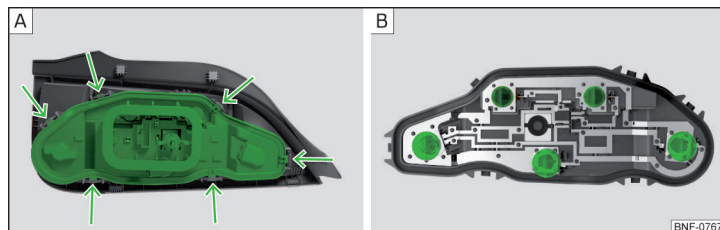

Fig. 149 Inner part of the lamp
- Press down on the lamp holder » Fig. 149 - **A** and remove the holder from the lamp.
- Turn the light bulb **counter-clockwise** to the stop and remove it from the bulb holder » Fig. 149 - **B** .